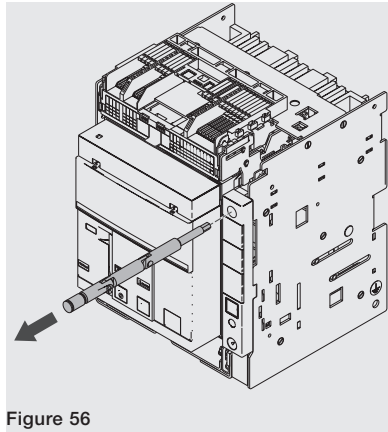

Figure 56
4. Extract the disconnection crank from its housing See Figure 56.